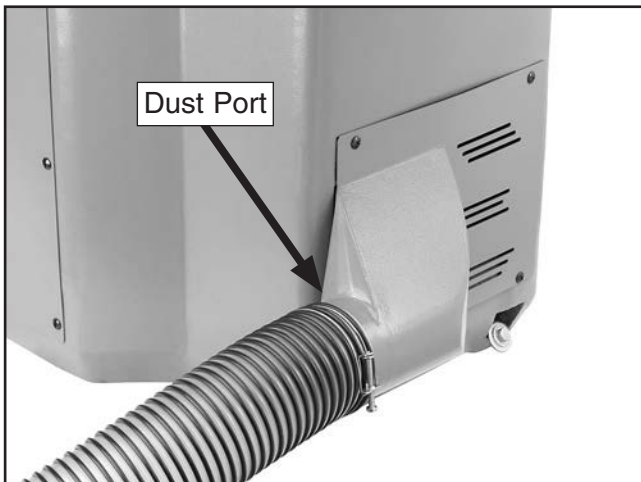

Figure 26. Dust hose attached to dust port.
1. Fit a 4" dust hose over the dust port, as shown in **Figure 26**, then secure it in place with a hose clamp.